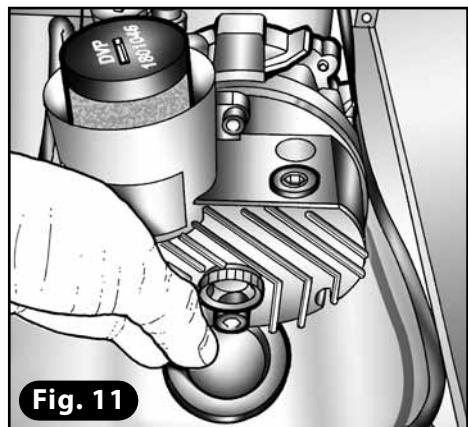
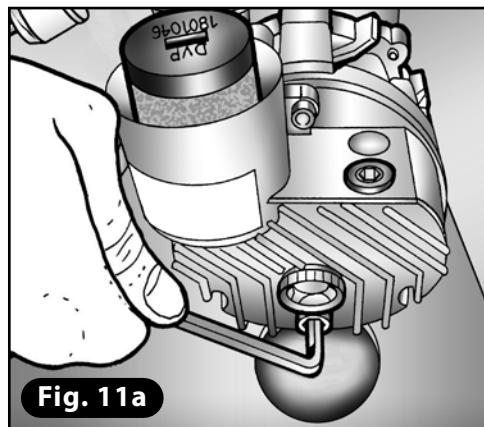
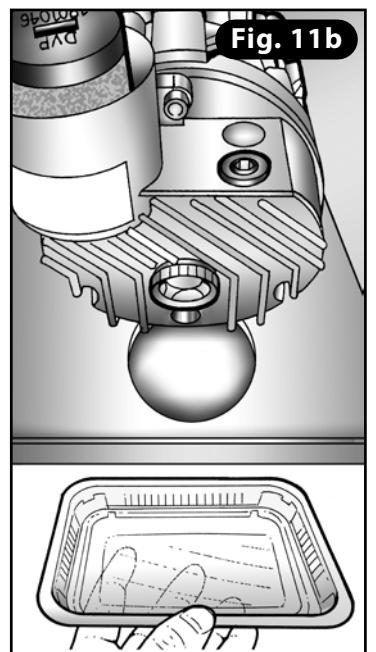

Fig. 11
Fig. 11a
Fig. 11b
- 8) Place a container large enough (0,5 L) close to the drainage hole (**Fig. 11**). Remove the rubber seal (**Fig. 11a**). Use the same wrench to undo the drain cap and leave the oil to flow into the container for about ten minutes (**Fig. 11b**).